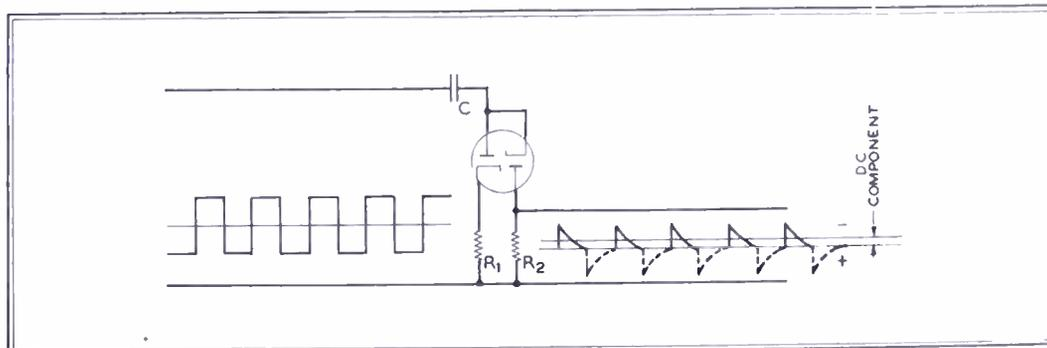

FIG. 6. THIS DRAWING SHOWS THE PRINCIPLE OF THE PULSE COUNTER DISCRIMINATOR
**Discriminator Operation** ★ Fig. 6 illustrates the principle of the pulse counter discriminator. The series condenser is alternately charged through the left diode, and discharged through the right diode.